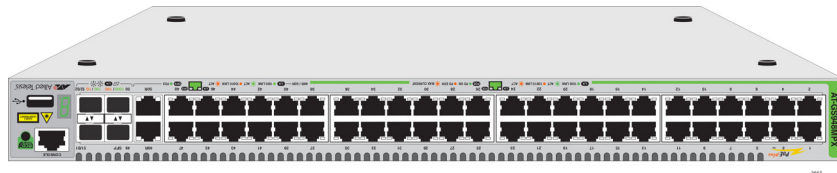

Figure 23. Turning the Switch Upside Down
1. Place the unit upside down on a level, secure surface. See Figure 23.